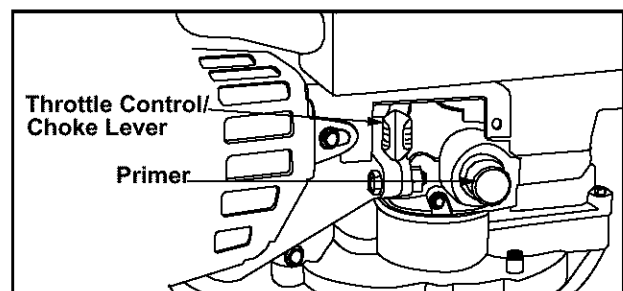

Figure 7
- Depress the primer bulb firmly with your thumb three times. Wait about two seconds between each push. Do not use the primer to restart a warm engine after a short shutdown. See Figure 7.
- Move throttle control / choke lever on engine to CHOKE position. (A warm engine may not require choking.) See Figure 7.